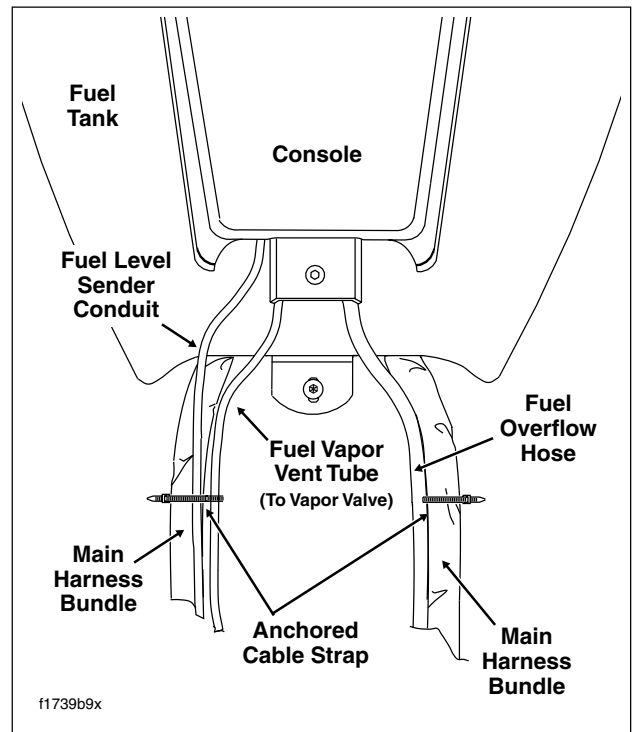

Figure 8-121. Console Cable/Hose Routing - FLHT/C, FLTR (Top View)
6. Remove filler cap. Position console on canopy. Route cables from beneath console as shown in Figure 8-121. Be sure that hoses and wires are not pinched by the console during installation. Reinstall filler cap.
9. Snap anchor of **new** cable strap into hole on left side of frame backbone. Tighten cable strap capturing main harness bundles, fuel level sender conduit, and fuel vapor vent tube. See Figure 8-121. Cut excess cable strap material.